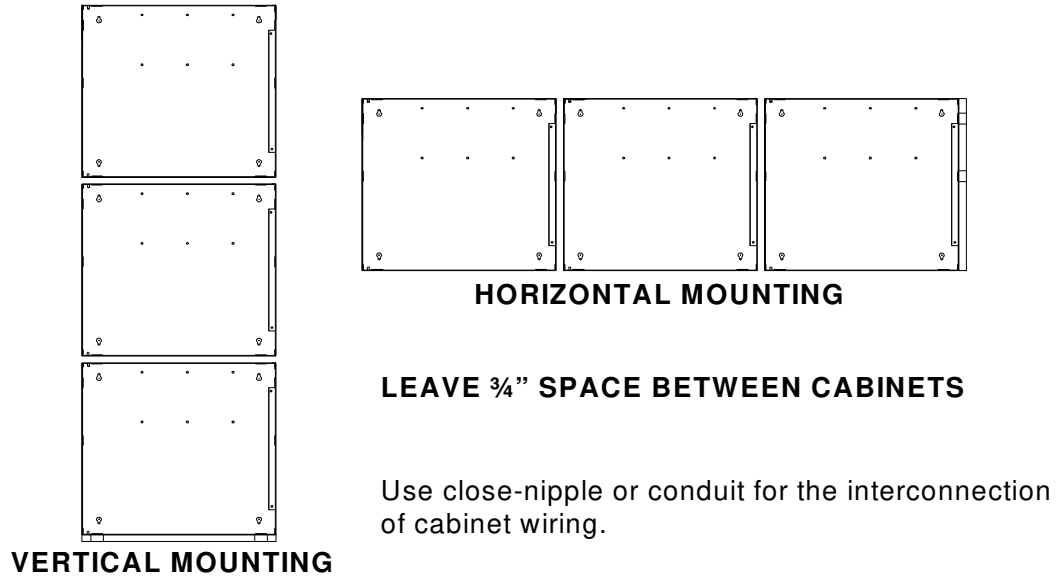

Figure 2.5.1 INCC-E Backbox Installation
2. Remove the 1" L diameter knockouts from the adjacent boxes prior to mounting to permit wiring from box to box and to peripheral devices in the field. Refer to Figure 2.5.1 and Figure 2.5.2.